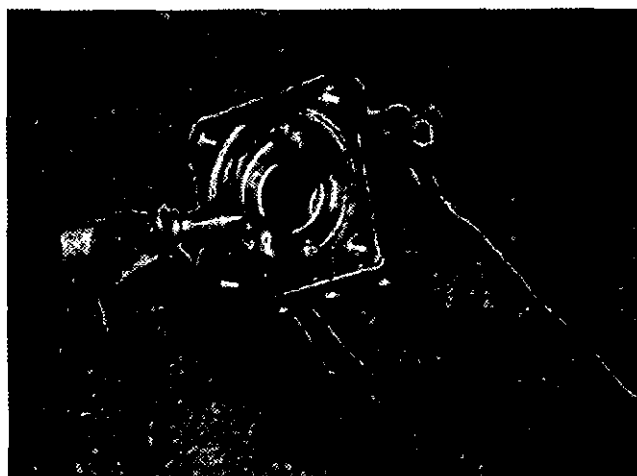
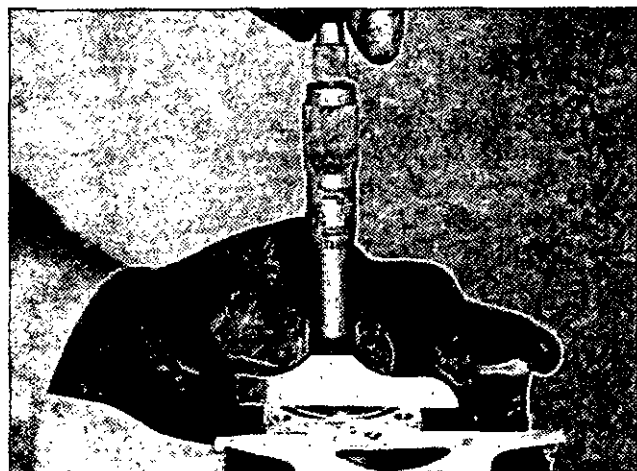

Fig. 6-3, (F529). Install the shaft.
Fig. 6-4, (F530). Check the shaft tip depth.
2. Install the shaft into the housing until it reaches the bottom, Fig. 6-3. Use a depth micrometer set at 0.118 inch [2.997 mm]. Check the distance from the face of the valve housing to the tip of the shaft. If necessary, turn the shaft out until it is 0.118 inch [2.997 mm] below the housing face. Do not move the shaft and press the knob on until it touches the valve housing. This is the stop position, Fig. 6-4.